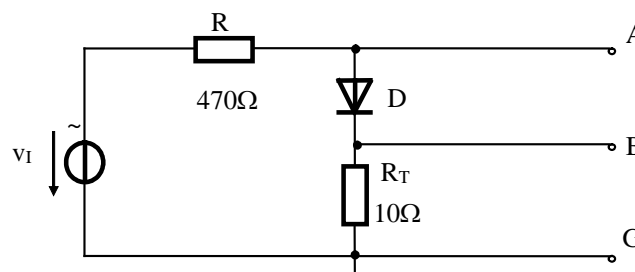

Fig. 5. Arrangement for displaying the  $i_D(v_D)$  characteristic using an earthed source
In order to see the characteristic on the oscilloscope you can use the assembly from Fig. 5. The resistance,  $R_T$ , has the role of a current - voltage transducer, necessary to visualize the current through the diode.
- Why can't the ground (GND) of the oscilloscope be connected between D and R, if  $v_I$  is a earthed (non floating) source (Fig. 5.)?
Build the assembly from Fig. 5 using an earthed source (signal generator).